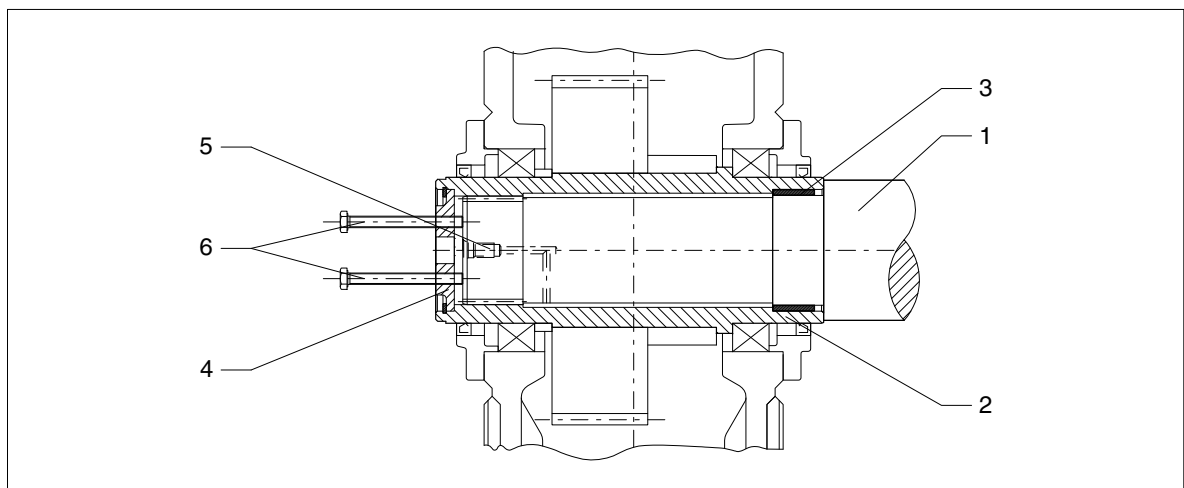

Fig. 49: Hollow shaft with internal spline, demounting with end plate
- using forcing screws in an end plate (see Fig. 49) or